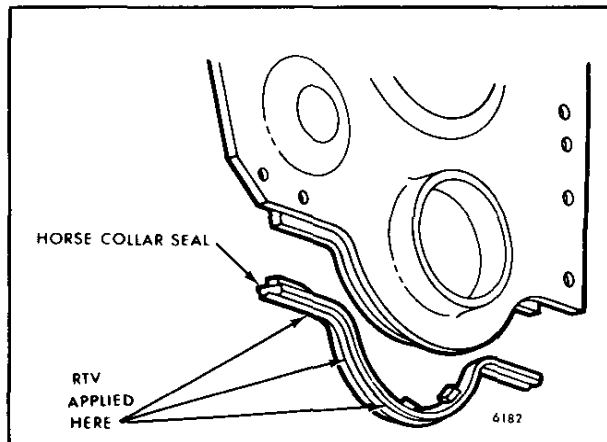

Fig. 2 - Installing Horse Collar Oil Pan Seal
3. Apply Room Temperature Vulcanizer (RTV) and install horse collar oil pan seal (Fig. 2).